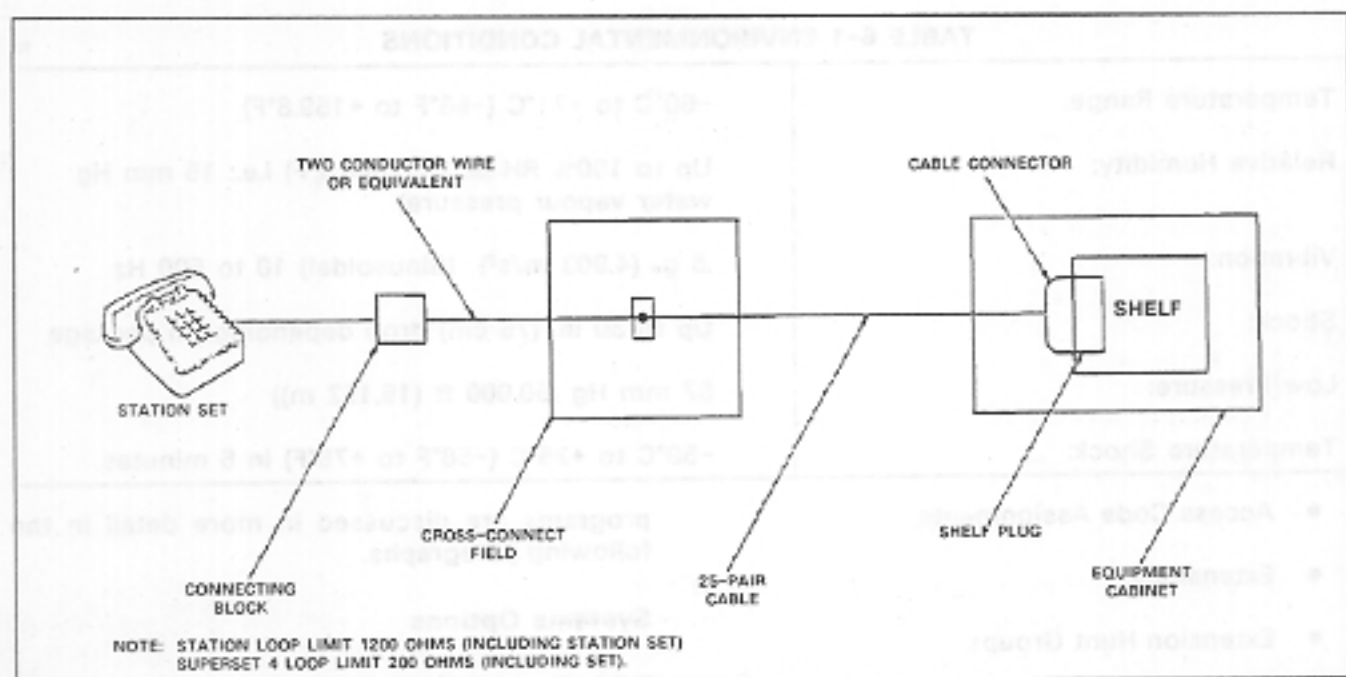

Fig. 6-1 Station Cabling and Limits
6.08 Telephone set and trunk cabling terminates on the building cross-connect terminal in the normal manner. The cabling requirements and limits for stations and consoles are shown in Figs. 6-1 and 6-2.